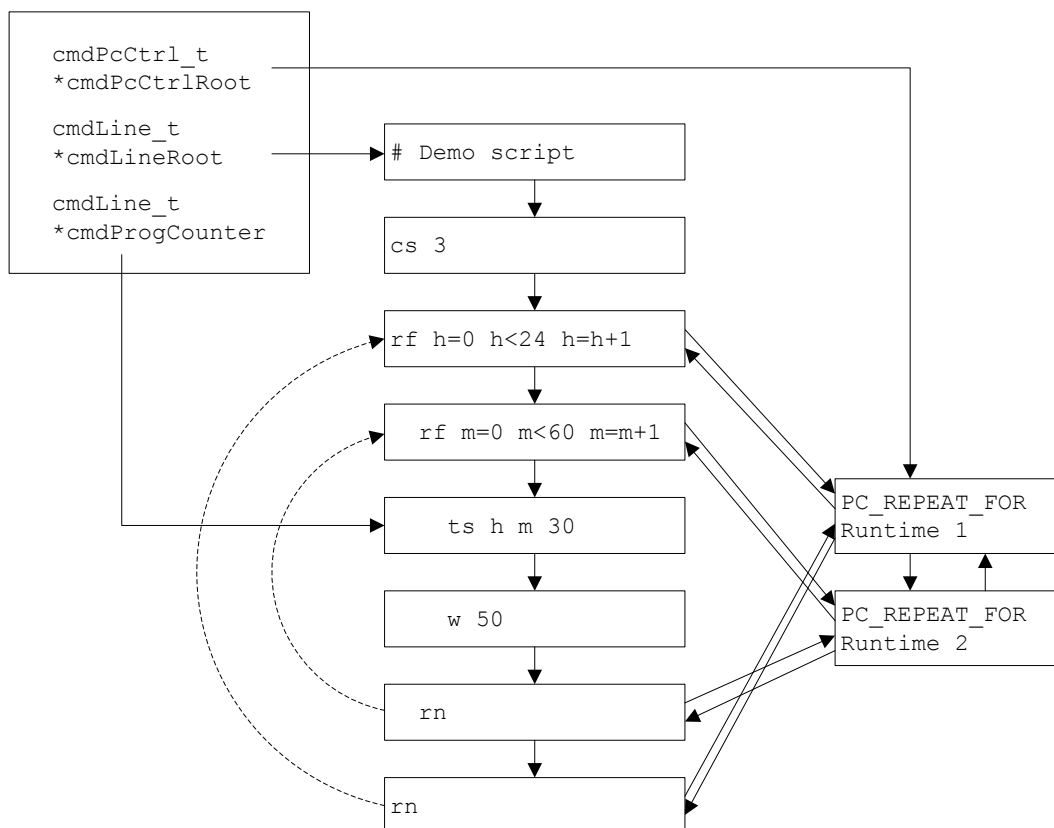

Figure 9: Creating and executing an mchron command list
- In `doExecute()` function `cmdListFileLoad()` is called to load the file contents into linked list structures as depicted in figure 9 below. Part of loading the file is matching each line with its associated command dictionary entry. Also, the integrity of the command list is checked by matching each 'rf' command with an 'rn' command. When an unknown command is encountered or repeat commands cannot be matched, file loading will abort.